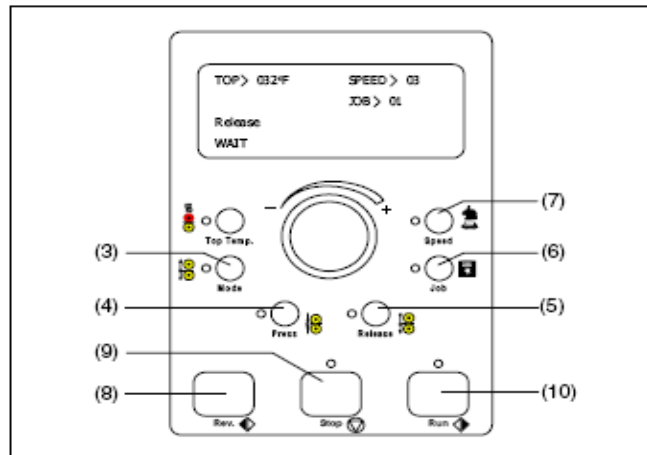

Fig.7
For items (3) through (10), refer to Figure 7.